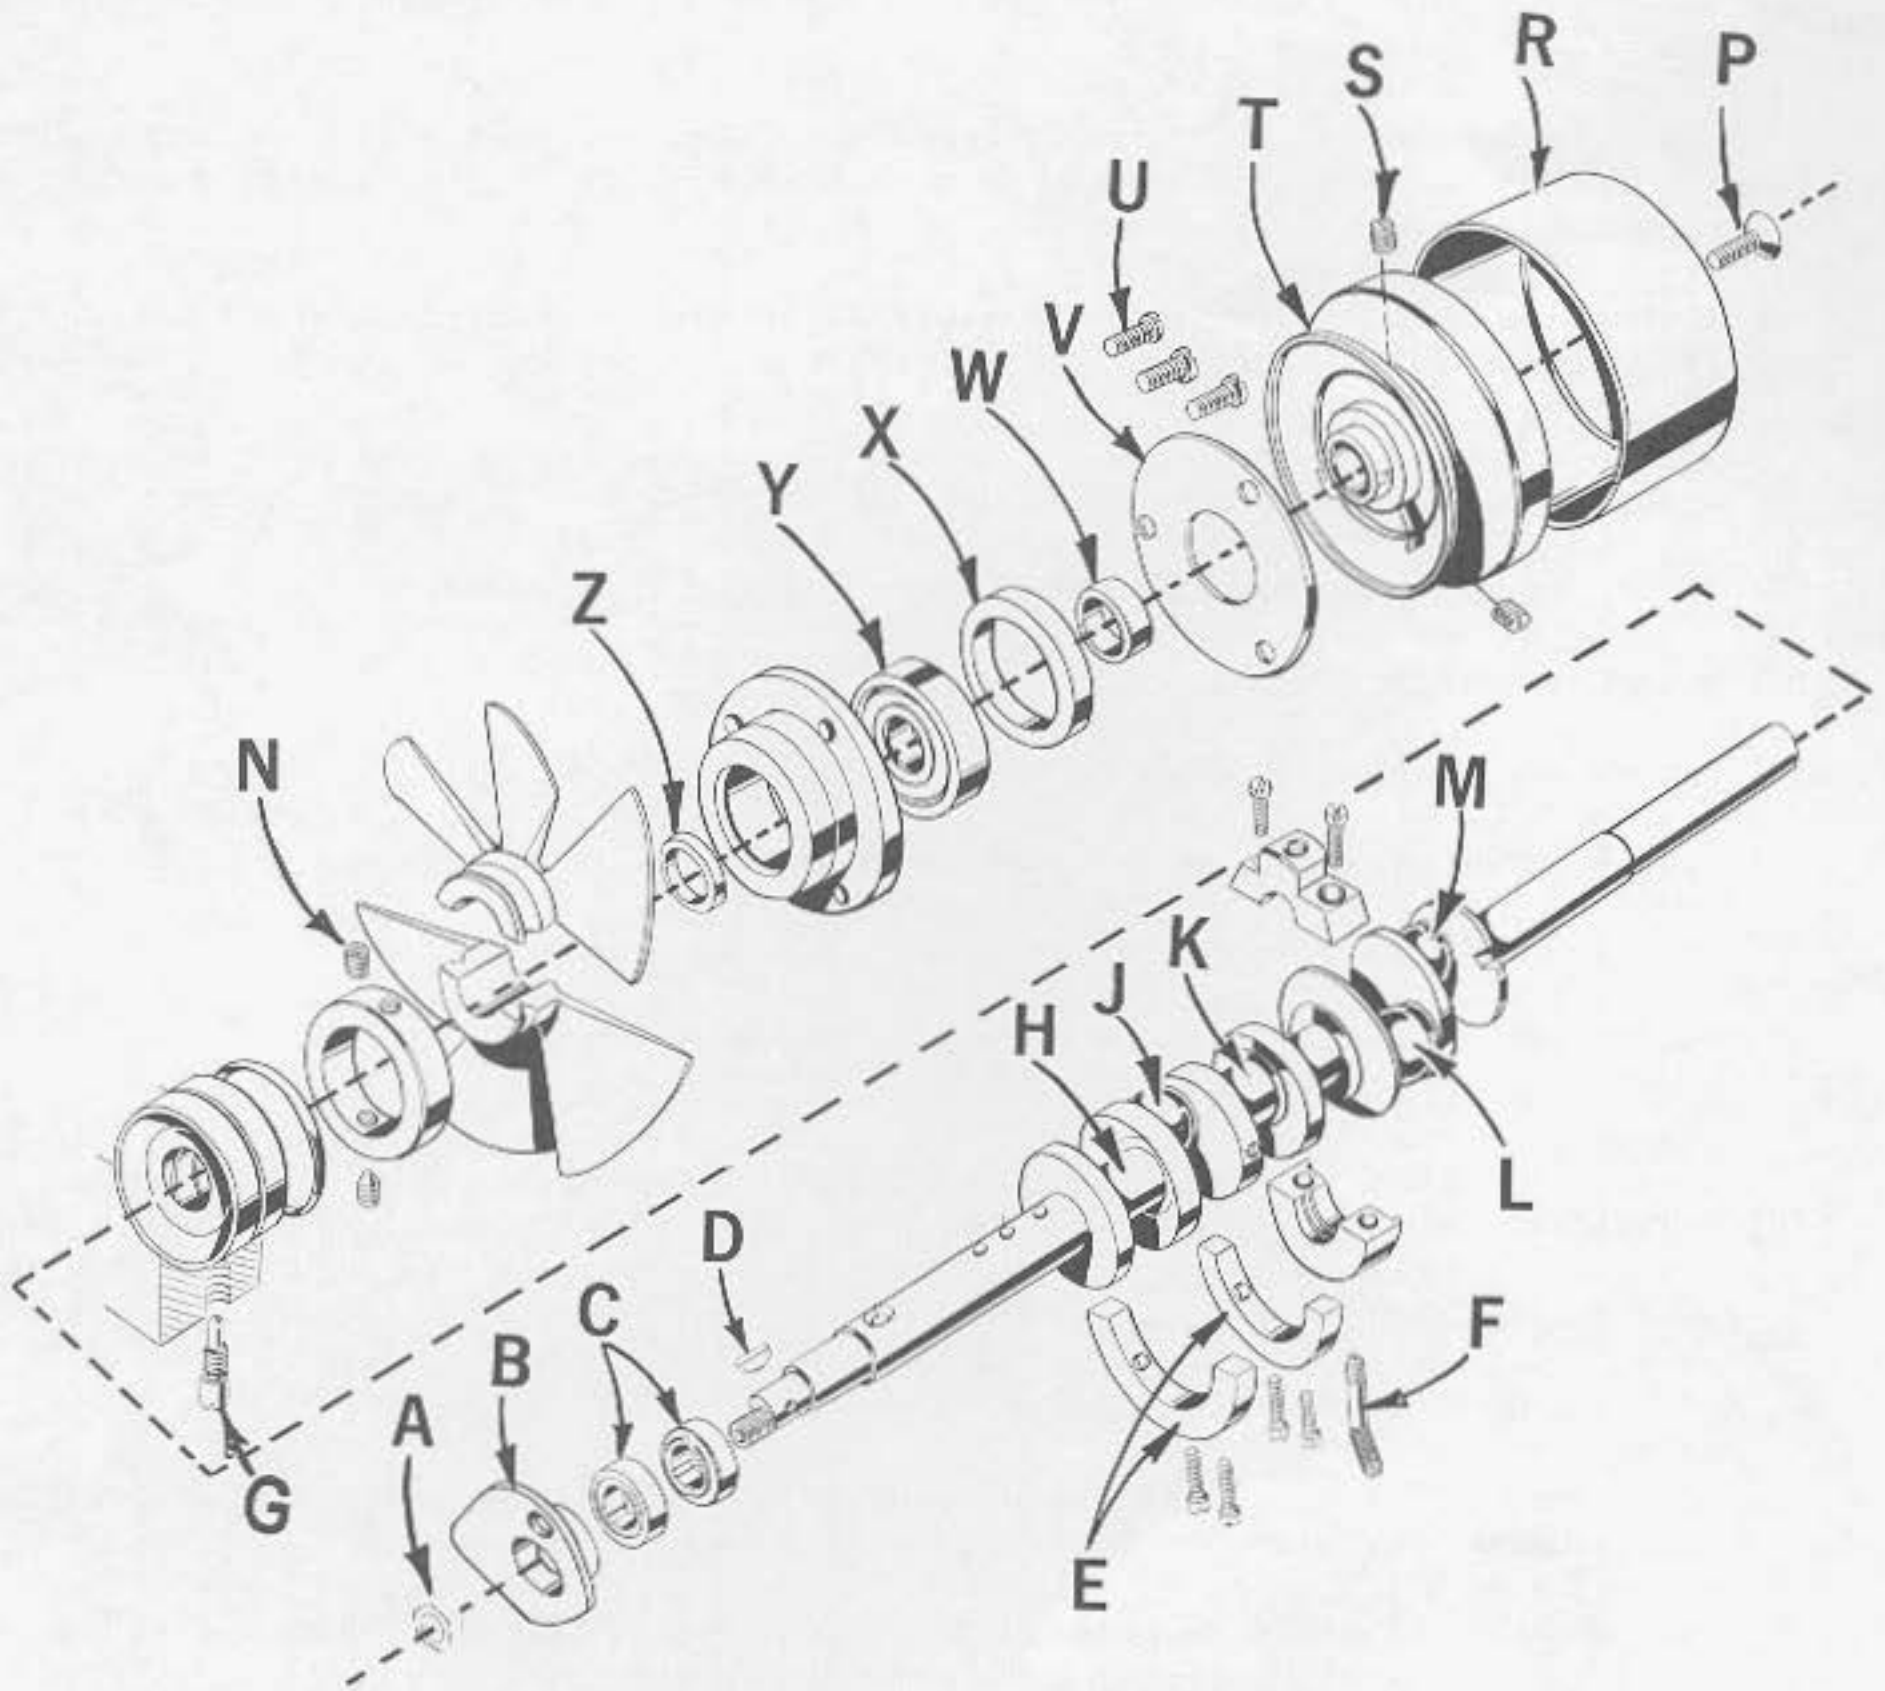
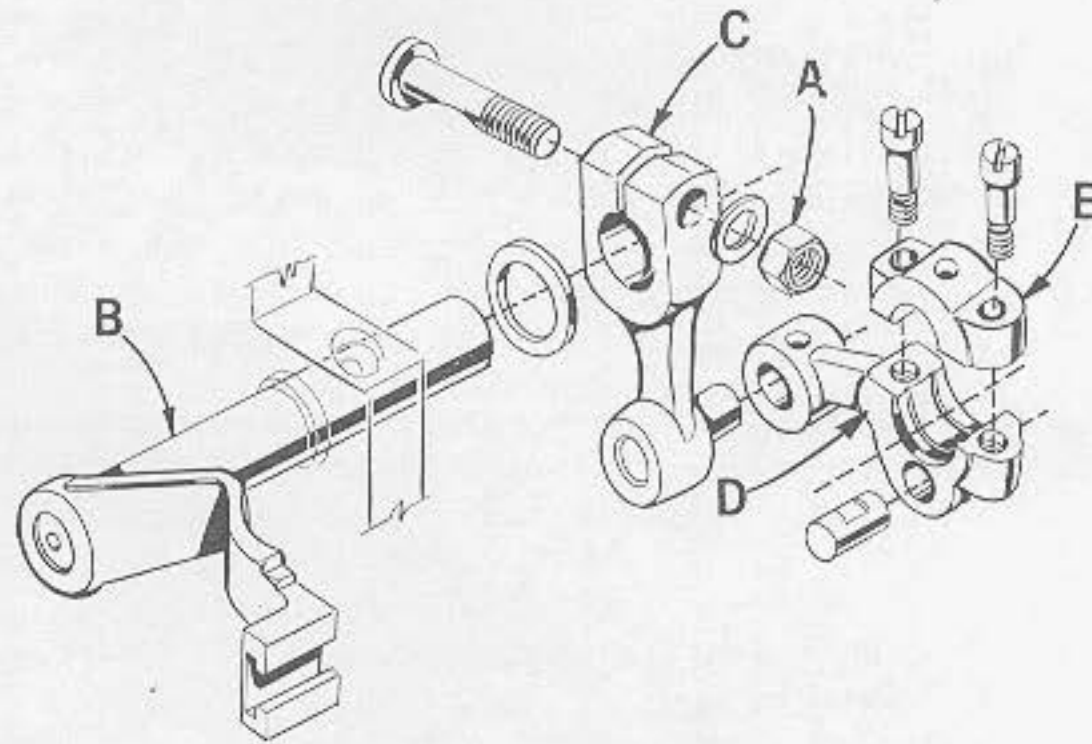

Fig. 22
Fig. 23
3. Remove nut (A, Fig. 22) 401 looper thread take-up (B) and eccentrics (C).
14. Loosen clamp nut (A, Fig. 23) which holds the upper knife driving arm (B). Access to clamp nut is through top cover. Draw driving arm to the left until upper knife driving lever (C) and connecting rod (D) drop, allowing removal of bearing cap (E). This is at bearing point (K, Fig. 22) on crankshaft. Observe same precautions when reassembling cap as described in paragraph 7.
15. Loosen two screws (N) in fan collar; remove both halves of cooling fan.
16. Remove screw (P); take off pulley cap (R).
17. Loosen two screws (S); remove pulley (T).
18. Remove three screws (U); take off bearing retaining plate (V); also, spacer collars (W) and (X) may be removed at this time.
20. If necessary to replace ball bearing (Y), it can be pressed off shaft on an arbor press. In replacing the bearing it must be pressed on carefully until it seats against ground thrust washer (Z).